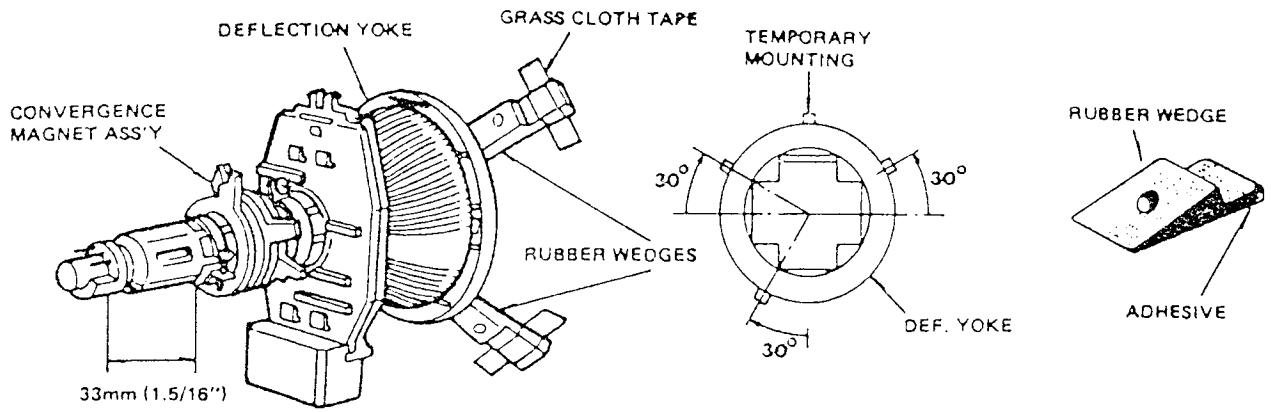

Figure 13 RUBBER WEDGES LOCATION
- (f). Rotate and spread the tabs of the purity magnet (see fig. 13) around the neck of the picture tube until the green belt is in the center of the screen. At the same time, center the raster vertically.
Convergence magnet assembly and rubber wedges need mechanical positioning following fig.13.
- (b). Place a wedge as shown in figure 13 temporarily. (Do not remove cover paper on adhesive part of the wedge).
- (i). Stick 3 grass cloth tapes on wedges as shown in figure 13.